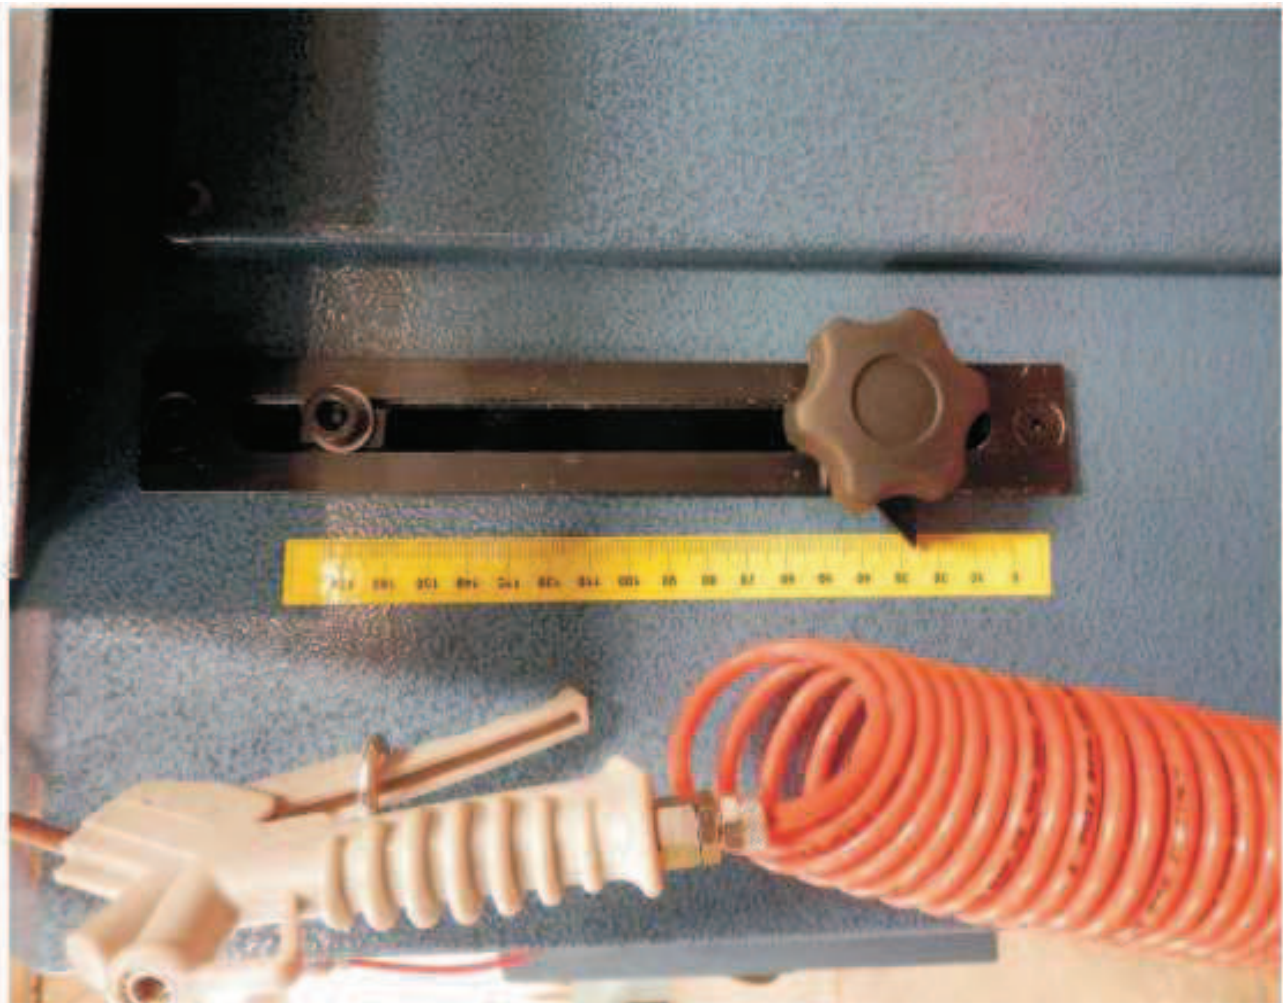

FIGURE 3
- 7. To set the blade height, the adjustment is on the right hand side of the saw. See Figure 3.**